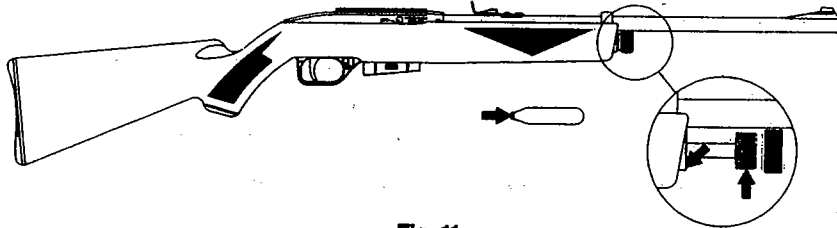

Fig. 11
- Your air rifle will work best if you oil it every 750 shots. Put 2 or 3 drops of Crosman Pellgunoil® (Available for order through the Crosman Accessories Catalog) on the threads of the piercing tube cap. A drop of oil on the end of every 25th CO2 Cylinder will lubricate the piercing assembly. (Fig. 11)
- A little oil on the barrel helps prevent rust. Pellgunoil® is best, but any light household oil is better than none. Don't over-oil. This can cause damage to your air rifle. (Fig. 11)